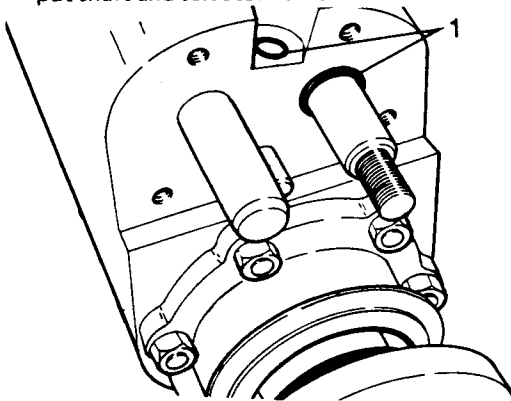

Fig H1.114
- (7) Refer to Fig H1.114. Fit the sealing rings (1) of the high and low gears selector shaft and that of the locking pin for four wheel drive.